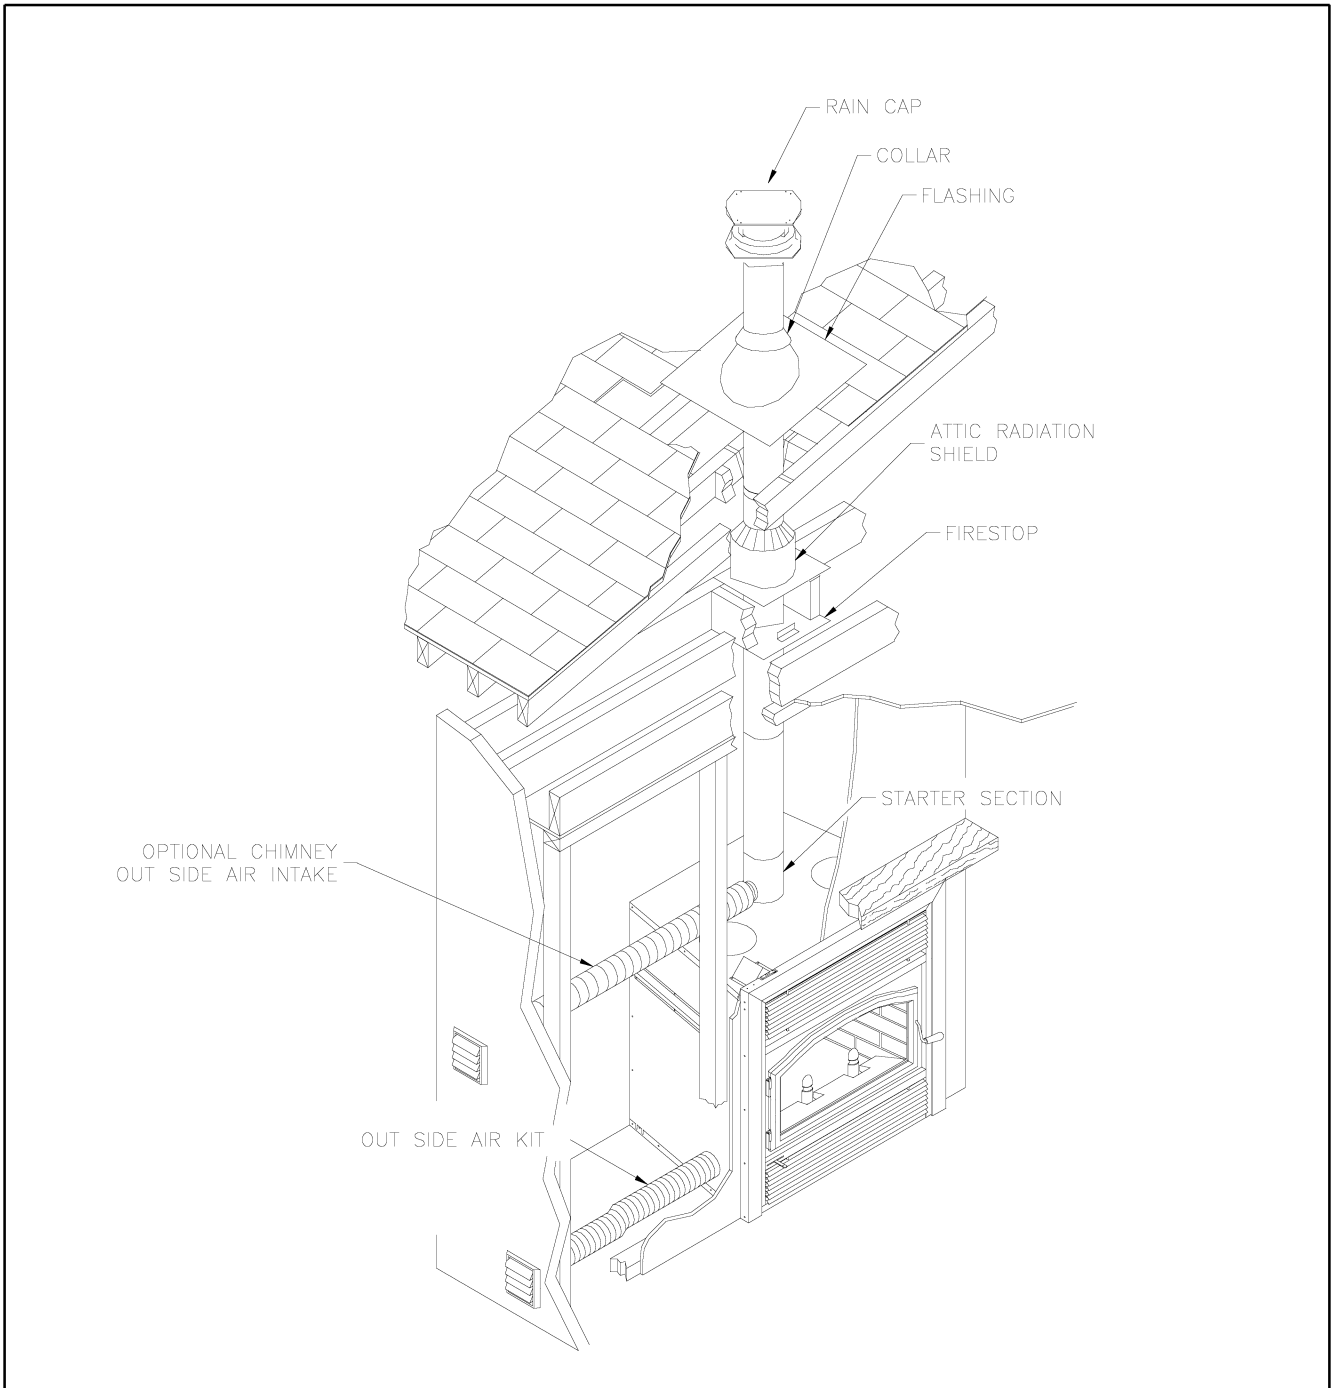

Figure 28
3. For ASHT+ / HT6103+ and S-2100+ / HT6000+ chimneys, place the first chimney length on the fireplace. To lock it in place, turn ¼ of a turn clockwise. With the AC chimney, you must use a starter section before installing the first chimney length (figure 28). Continue installing chimney lengths making sure to lock each length in place.